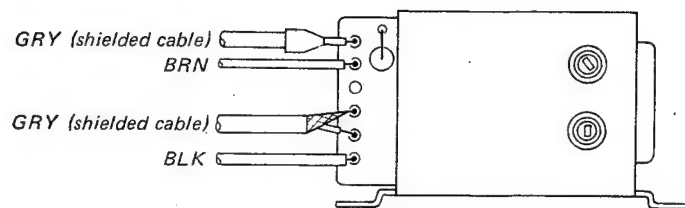

Fig. 12
3. Unsolder the two leads and the two shielded cables in Fig. 12.